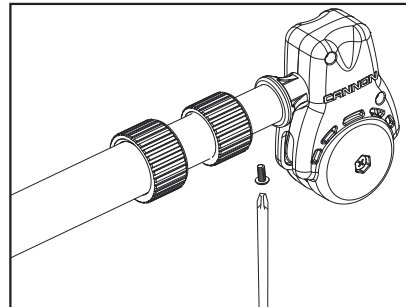

Figure 10
3. Secure boom end with #8 screw as shown. Tighten with Phillips head screw driver by turning screw clockwise until tight. (Figure 10)